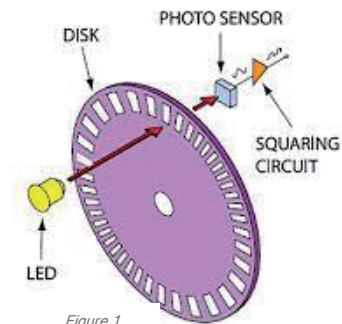

Figure 1.
Figure 1, at right, outlines the basic construction of an incremental encoder. A beam of light emitted from an LED passes through a transparent disk patterned with opaque lines. The light beam is picked up by a photodiode array, also known as a photosensor. The photosensor responds to the light beam, producing a sinusoidal wave form, which is transformed into a square wave or pulse train. This pulse signal is then sent to the counter or controller which will then send the signal to produce the desired function.
Figure 1. diagram is for a typical rotary encoder. Incremental encoders can provide a once-per-revolution pulse (often called the index, marker, or reference) that occurs at the same mechanical point of the encoder shaft revolution. This pulse is on a separate output channel (Z) from the signal channel or quadrature outputs. The index pulse is often used to position motion control applications to a known mechanical reference.